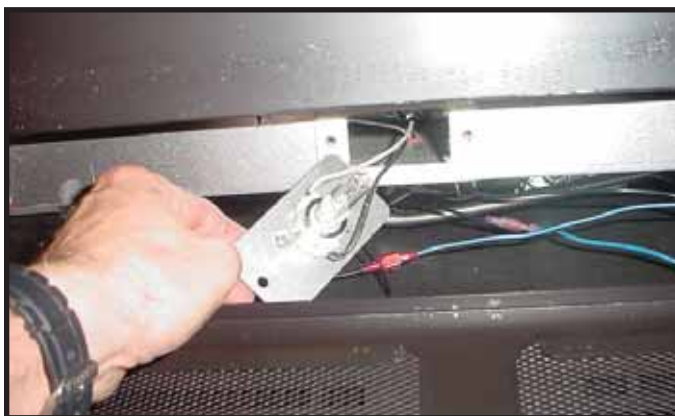

Figure 3.3 Replace Bulb
3. Pull the access panel to expose the light bulb. Wearing clean cotton gloves, replace the bulb. Any skin oils which get on a new bulb will greatly reduce the life of the bulb. The bulb can be cleaned with isopropyl alcohol. See Figure 3.3.